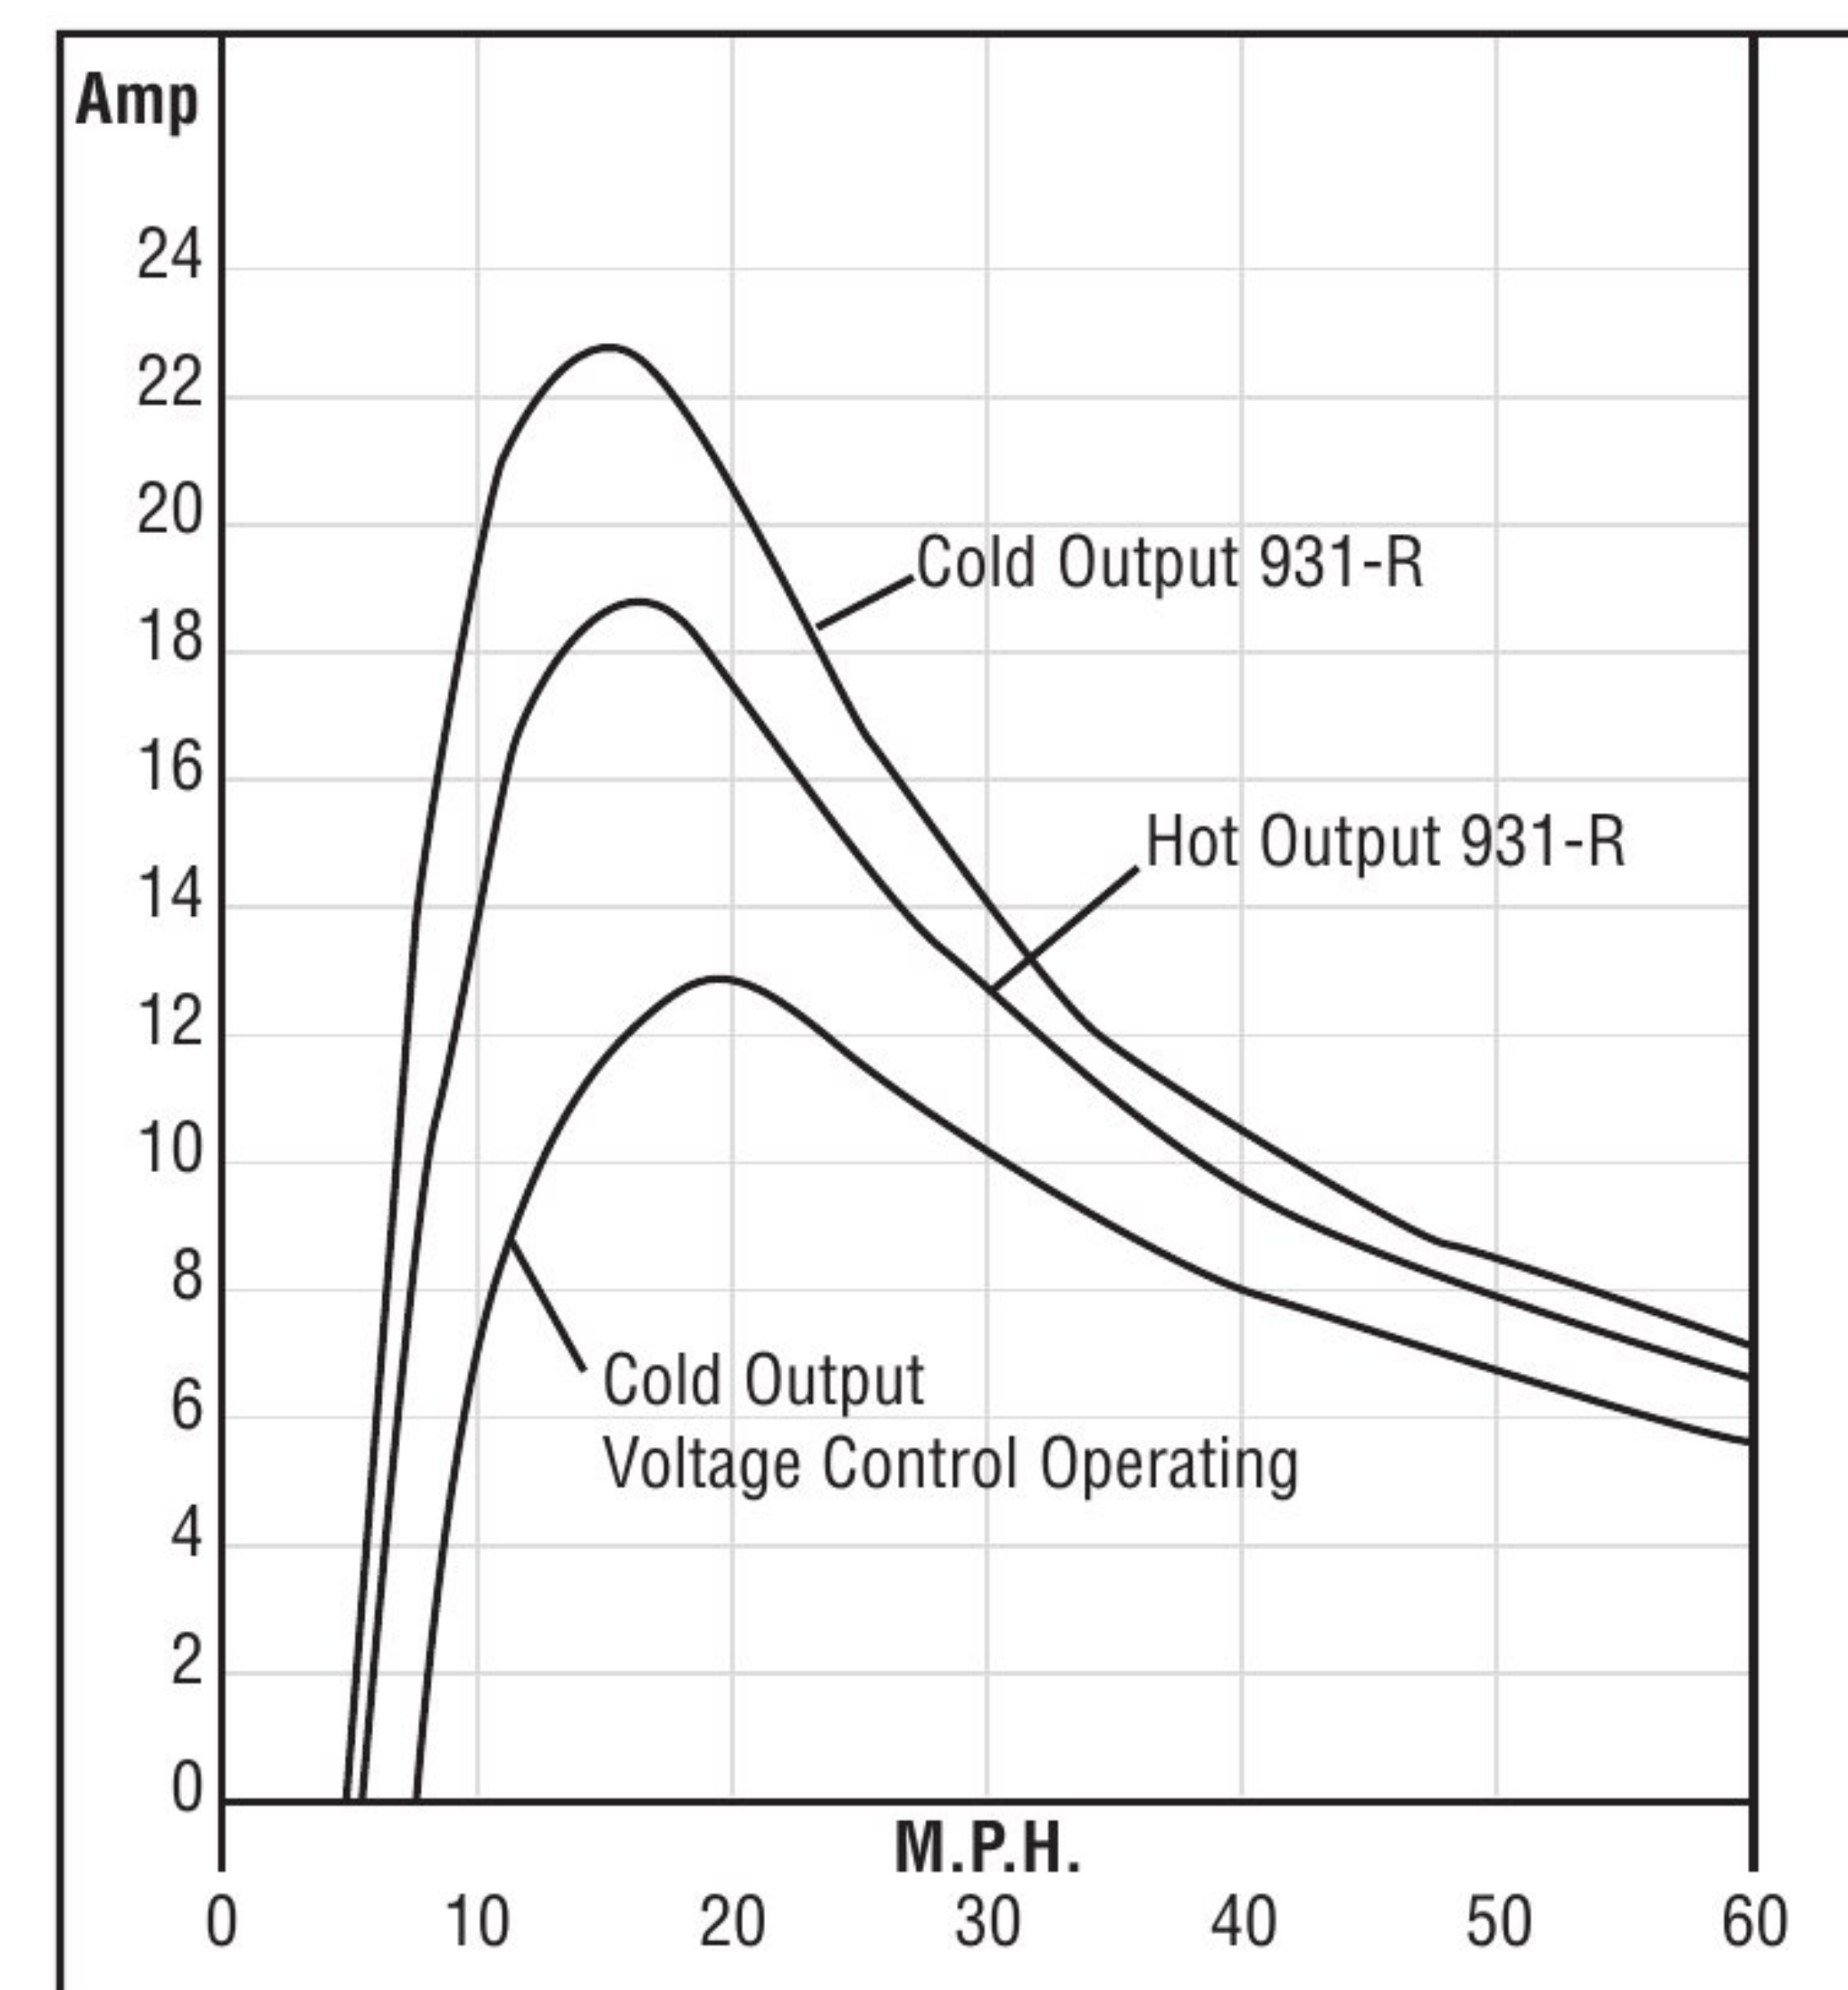

Figure 11—Performance Curves—Model 931-R Generator for City Service
- When sufficient electrical load, such as lamps, heater, radio, etc., are being used to require a higher generator output, the added field resistance is automatically removed and the generator then operates as shown by the higher curves of Figure 11, carrying the total load without drawing current from the battery.